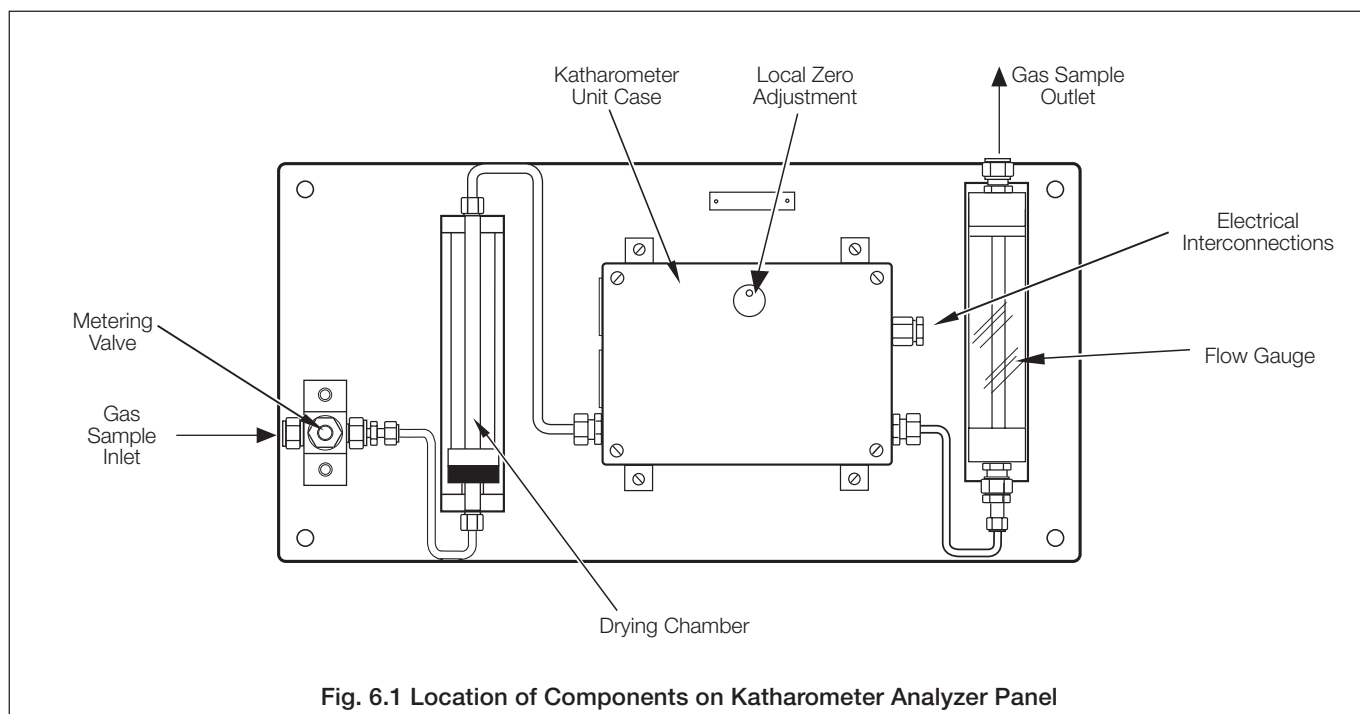

Fig. 6.1 Location of Components on Katharometer Analyzer Panel
6.1 Katharometer Analyzer Panel – Filling the Drying Chamber – Fig. 6.1